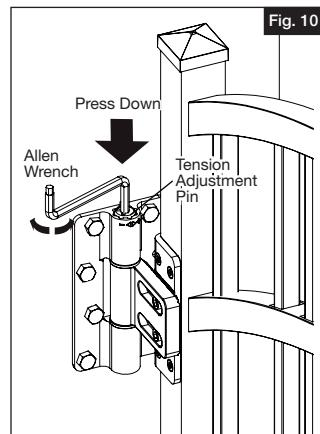

Fig. 10
- a. Place included Allen wrench into head of tension adjustment pin in hinge. The head is at the end closest to the "+" or "-" symbol on the hinge barrel (Fig. 10).
- b. Following the indicators on the "+" or "-" symbol on the hinge barrel, press down on the tension adjustment pin and turn a quarter turn toward the "+" to tighten, or toward the "-" to loosen until satisfied (Fig. 10).